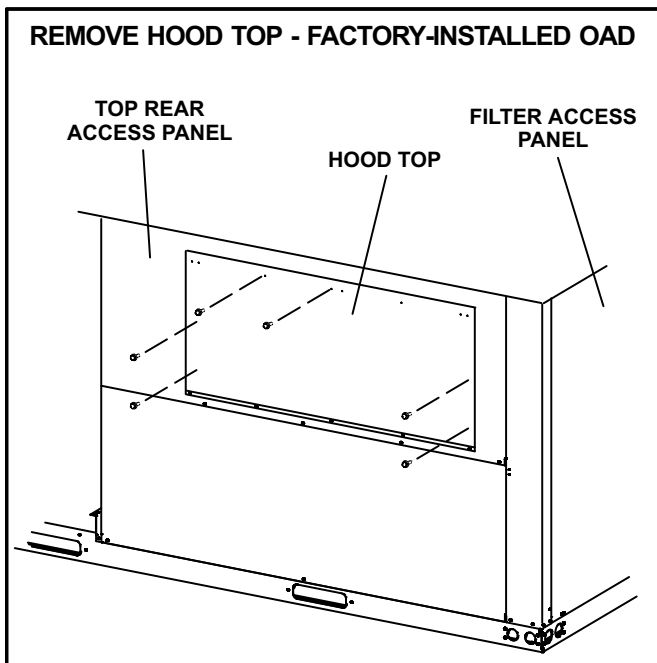

FIGURE 2
- 2- If damper is factory-installed, remove six screws securing hood top to access panel. See figure 2. Retain hood top and go to the *Outdoor Air Hood* section.
- 2- If manual damper is factory-installed, remove six screws securing hood top to access panel. See figure 2. Retain hood top. Go to step 5.